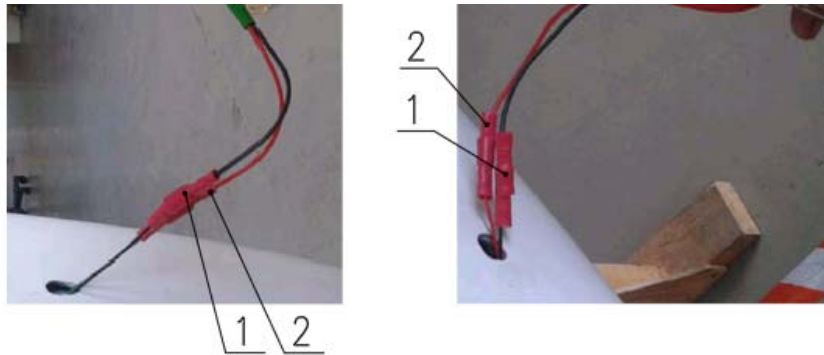

Fig. 33-40-17
8	Disconnect socket item 1 and plug item 2 (Fig. 33-40-17).